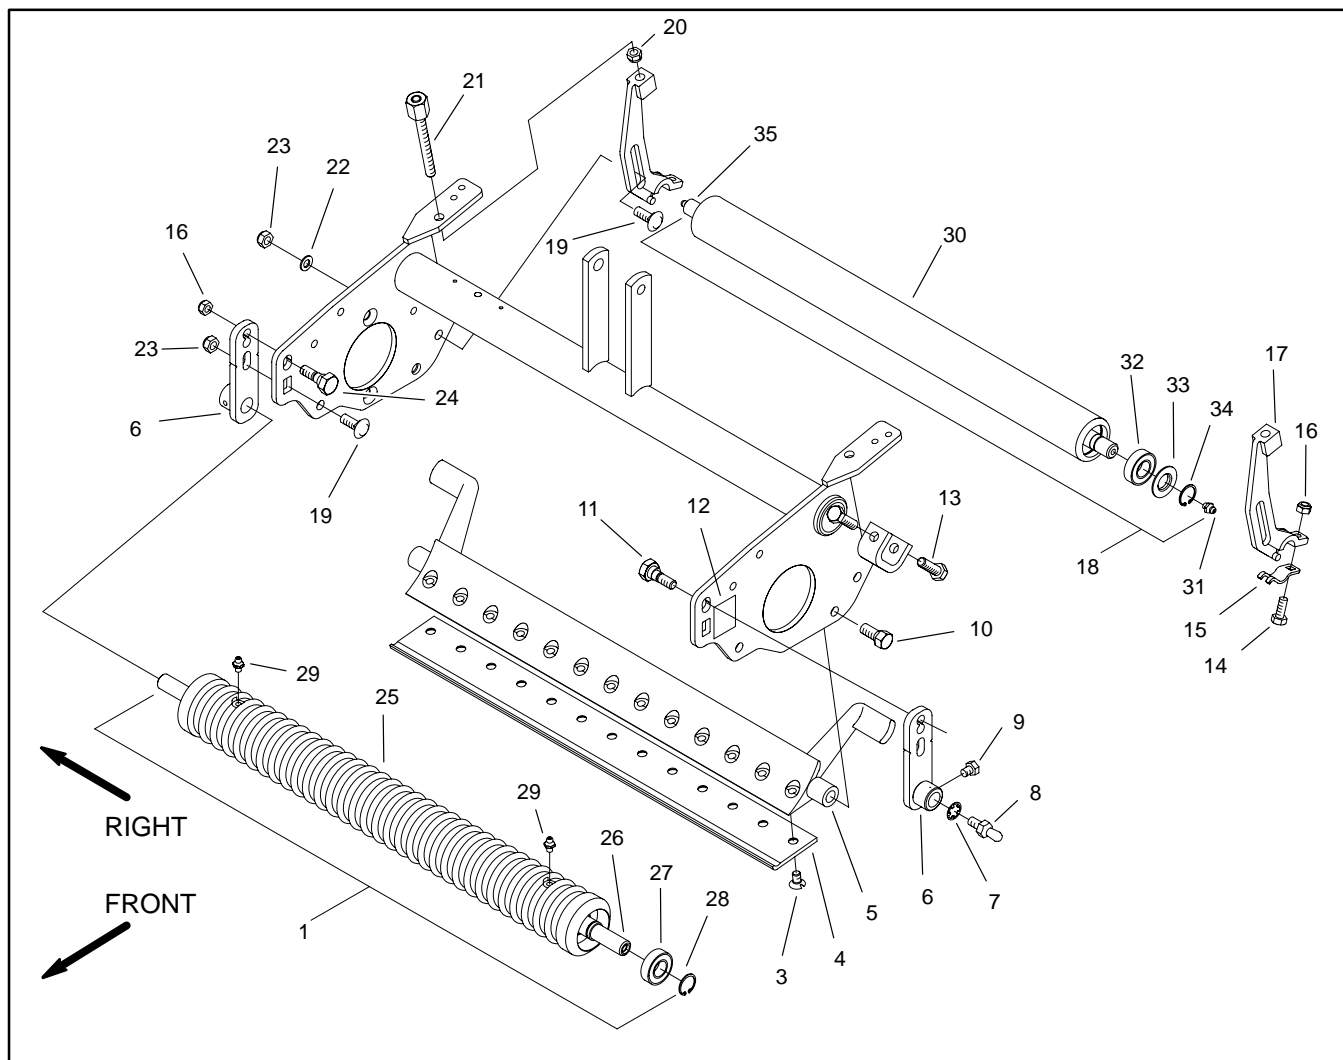
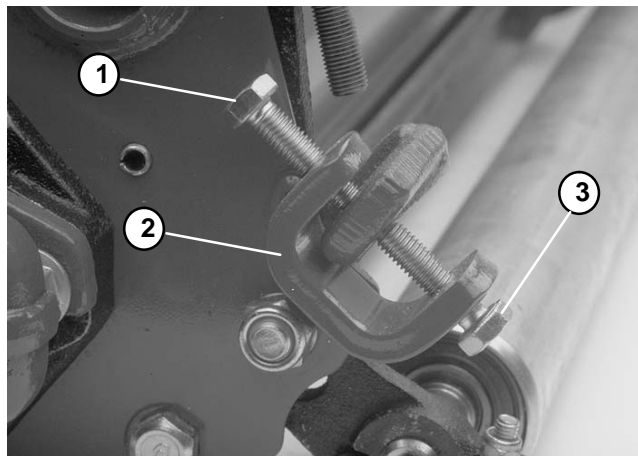

Figure 51
Figure 52
**Note:** The top hex head screws should remain in the adjustment brackets. This will allow for an easier adjustment of the bedbar when it is reinstalled (Fig. 52).
3. Remove bottom hex head screw from each bedbar adjustment bracket located on both sides of the frame (Fig. 52).
4. Remove both wheel bolts (10) from each end of the bedbar (5) and frame (Fig. 51).
5. Remove bedbar (5) from the cutting unit (Fig. 51).
1. Apply antiseize lubricant to the threads of both wheel bolts (10) (Fig. 51).
2. Position bedbar (5) to the cutting unit. Insert wheel bolts (10) through the frame and screw into the bedbar (Fig. 51).
3. Torque both wheel bolts (10) from 20 to 40 ft-lbs (27 to 54 N-m).
4. Start bottom hex head screws into the bottom of the adjustment brackets. Keep bedknife away from the reel while running up both screws to contact the bedbar ears (Fig. 52).